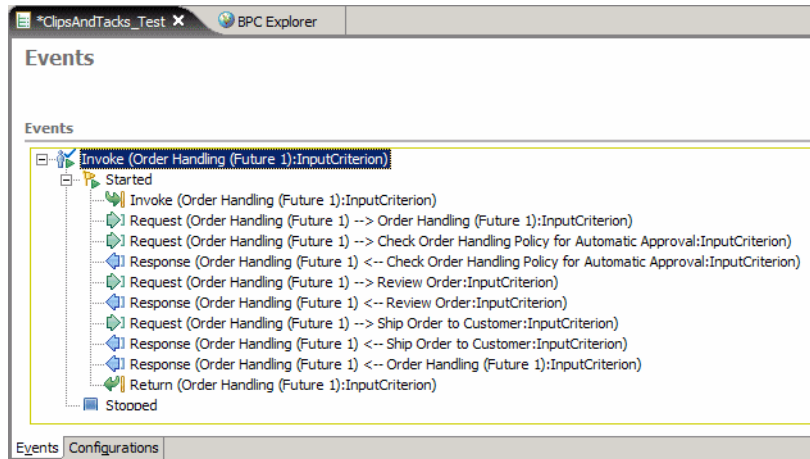

Figure 9-31 Testing: Process complete
- ▶ The process finishes, which can be seen in the test events list (Figure 9-31).